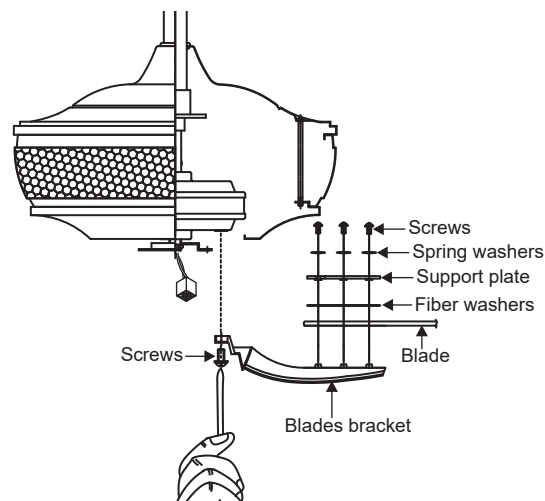

Fig. 16
Step 1. Attach the blade to the blade bracket using the screws, spring washers, blade support plate and fiber washers as shown in Figure 16. Start screw into bracket. Repeat for the two remaining screws.